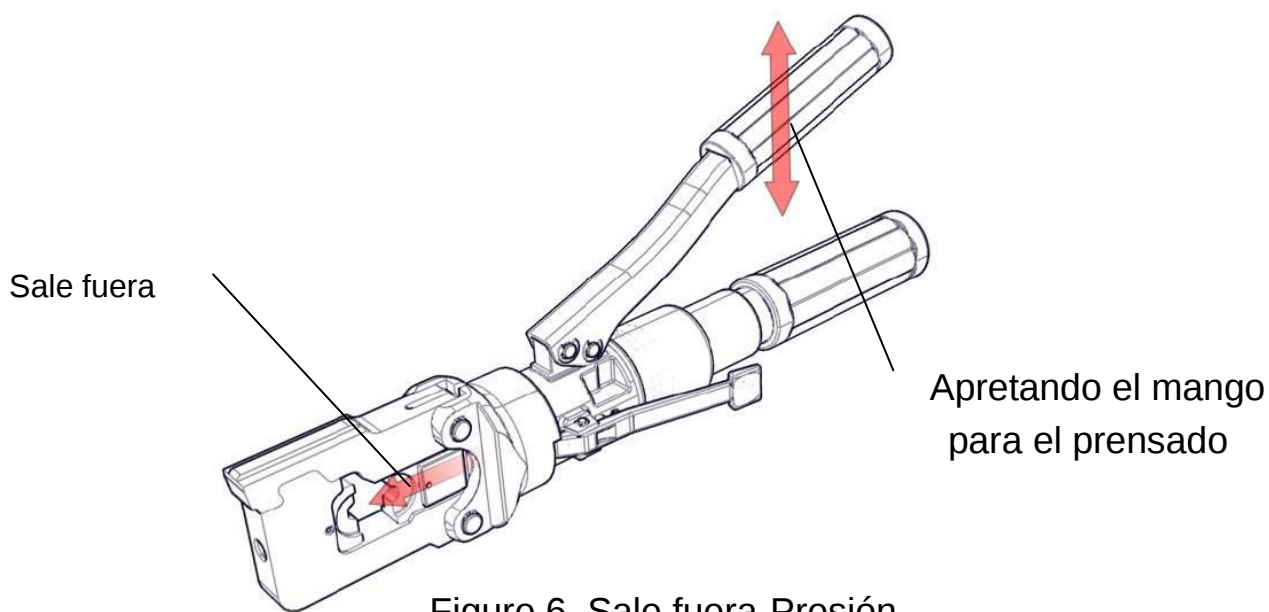
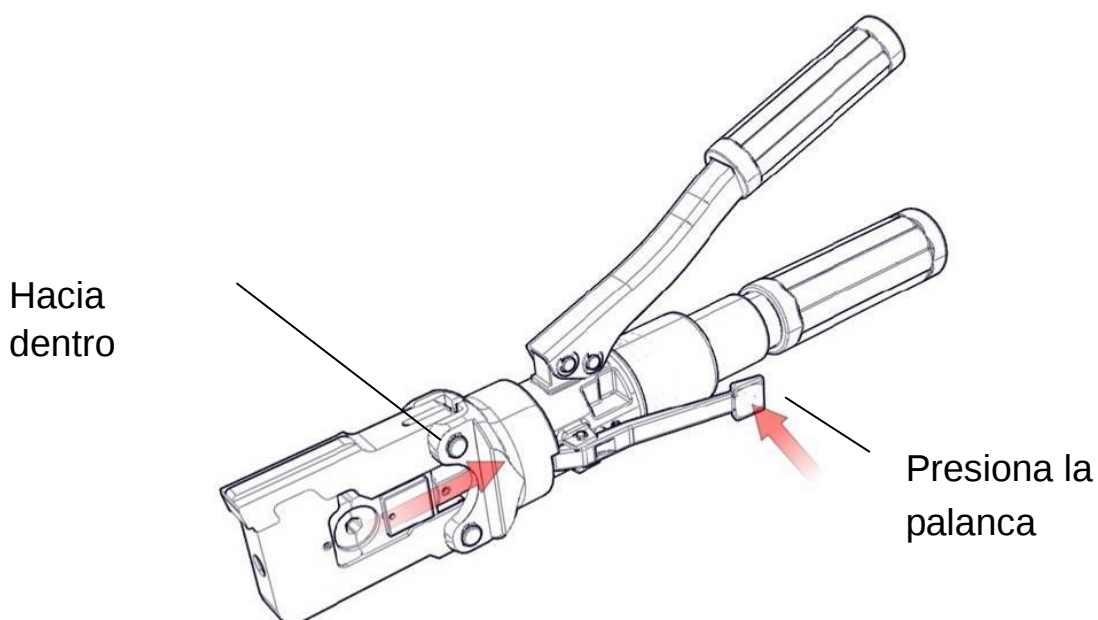

Figure 6. Sale fuera-Presión
Figure 7.Hacia dentro. Lanzamiento.
B. Inset the die in place, then start pressing. Meanwhile, the die will go forth/ go back for pressing. Please see Figure 6 & Figure 7.